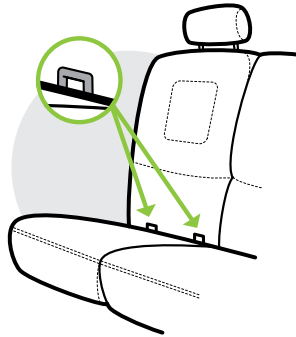

Figure 4
- The LATCH lower anchors are located in the crease between the vehicle seat back and vehicle seat cushion, as shown in **Figure 4**.